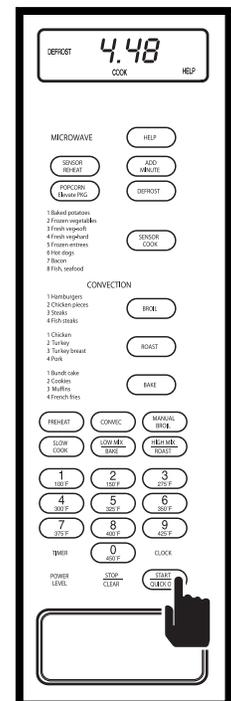

Figure 3-55.
5. Press QUICK ON/START key to resume the auto defrost process. Display will show the remaining time as it counts down along with the word “DEFROST “ (See Figure 3-55). At the end of the defrost time, “LET - STAND - COVERED ” will flash on display and alarm will beep.